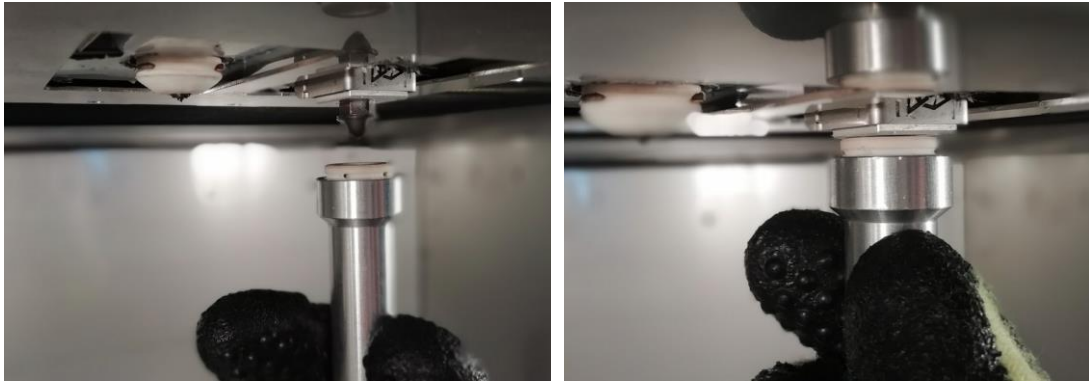

Fig. 92 Installing the cover
18. Replace the cover fixed in the tool onto the hotend tip (Fig. 92).